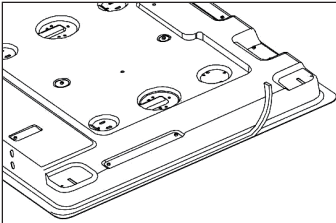

Figure 6
- Back board of the reverse side' edge use the foam-rubber cushion to paste a round (see figure 6).